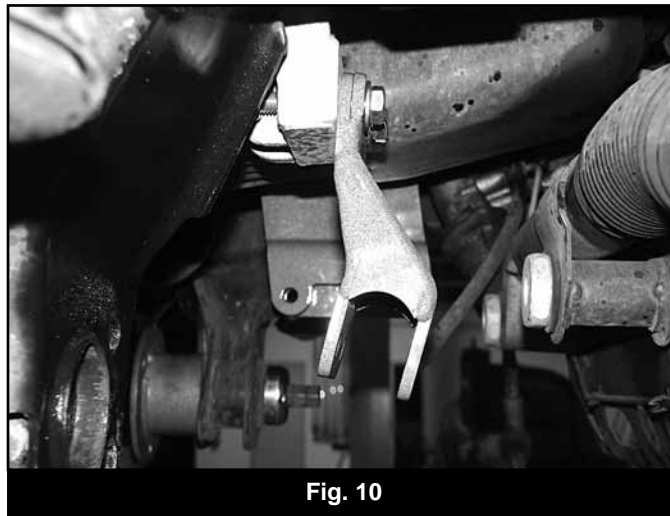

Fig. 10
39. Install the provided passenger's side differential drop bracket (01234) to the original frame mount with two $\frac{1}{2}$ " x 2-3/4" bolts, nuts and $\frac{1}{2}$ " SAE washers (BP #617) '08 models will use OE hardware. Leave hardware loose. (Fig. 10)